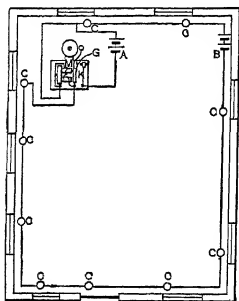

FIG. 148. Closed-circuit burglar alarm.
**79. Burglar Alarms.** In order that the system may not be put out of order by the cutting of the wires, burglar alarms are generally of the closed-circuit type. A simple scheme of this kind is shown in Fig. 148. The battery *B* causes a current to flow through a circuit in series with the coils on the magnet *M* in the bell. This keeps the arma-